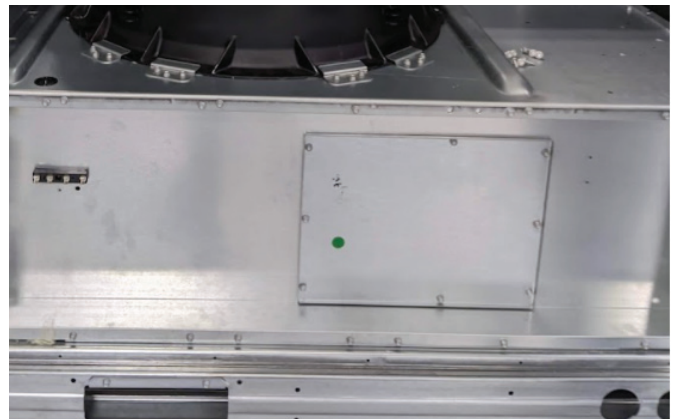

Fig. 12 — Heater Cover
4. Fasten heater cover to heater module with 2 screws provided with heater. Flanges of cover must face out. (See Fig. 12.)